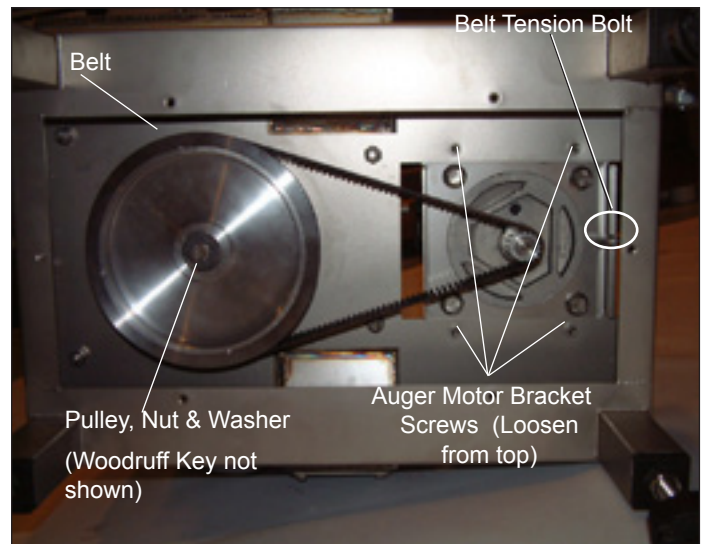

Figure 11. Pulley and Belt
2. Loosen four (4) bolts (from top of unit) securing auger motor bracket (Figure 11) to frame.
3. Loosen tension bolt located on back of unit until there is sufficient slack in belt, then remove belt (Figure 11).
5. Tighten four (4) bolts (from top of unit) securing auger motor bracket (Figure 11) to frame.
5. Remove nut and washer securing pulley in position and remove pulley (Figure 11). Pulley removal may require use of a bearing or gear puller. Remove woodruff key.
8. Tighten four (4) bolts (from top of unit) securing auger motor bracket (Figure 11) to frame.
5. Remove nut and washer securing pulley in position and remove pulley (Figure 11). Pulley removal may require use of a bearing puller. Remove woodruff key.
12. Tighten four (4) bolts (from top of unit) securing auger motor bracket (Figure 11) to frame.
9. Loosen four (4) bolts securing auger motor bracket (Figure 11).
10. Loosen tension bolt located on back of unit until there is sufficient slack in belt, then remove belt (Figure 11).
20. Tighten four (4) bolts (from top of unit) securing auger motor bracket (Figure 11) to frame.